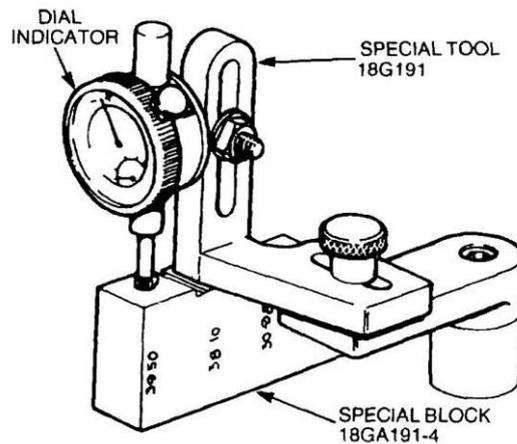

Figure 261 Zeroing the Dial Indicator
- p. Remove the keep-disc from the magnetized base of the dial indicator, special tool 18G191, place the dial indicator and setting gauge 18GA191-4 on a flat surface and zero the dial indicator stylus onto the setting gauge marked 39.50 mm (Figure 261).